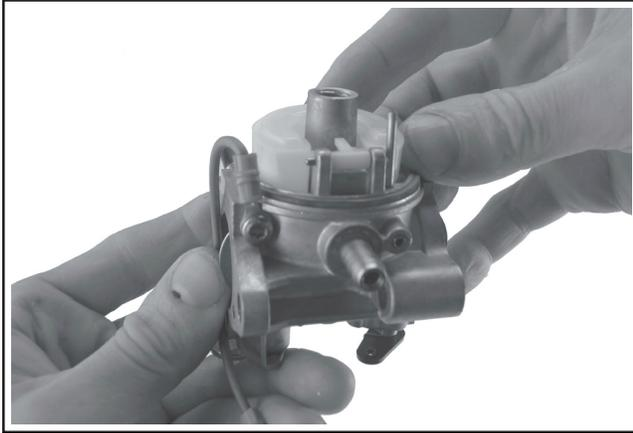

Figure 5-10. Installing Float and Fuel Inlet Needle.
3. Insert the fuel inlet needle into the float. Align the needle with the seat and lower the float into the carburetor body. See Figure 5-10. Install the float shaft.